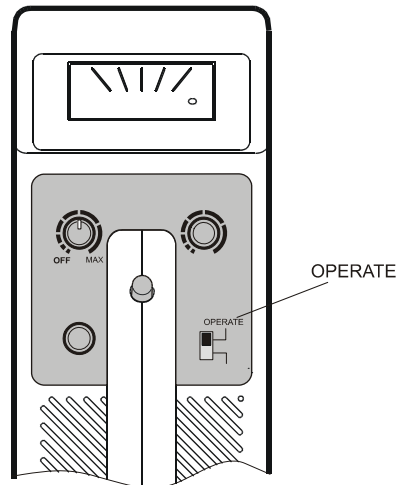
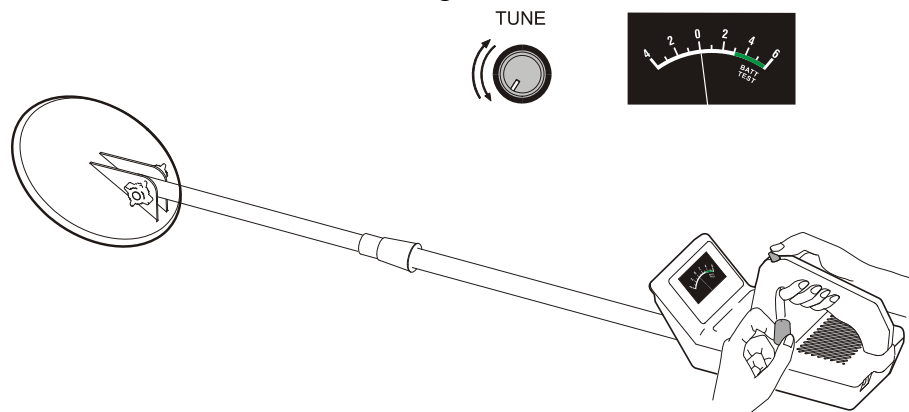

Figure.7
Figure.8
- Set the MODE switch to “OPERATE”(Figure.7), Press and hold the “red Button”,and adjust the “TUNE”knob,let the meter pointer points “0”position, release the Red Button. The meter pointer should maintain near the “0”,now the balance has been adjusted. The detector is in the sensitive detection state.(Fig.8).